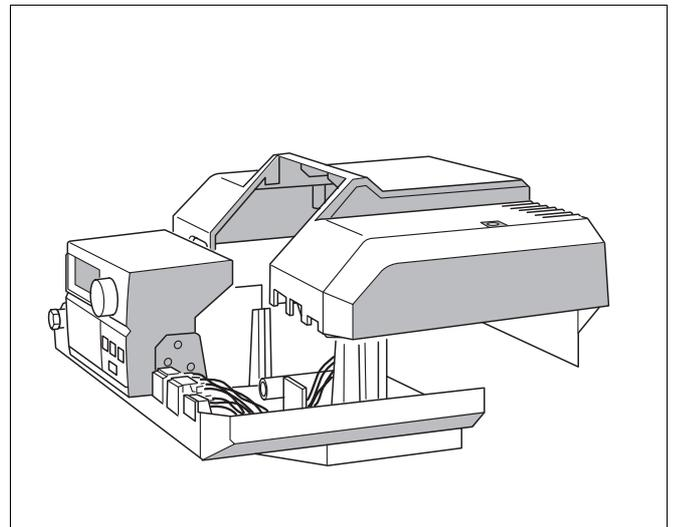

Fig. 20 Install the 2000 control unit
- Fit the cover and install the control unit (Fig. 20).